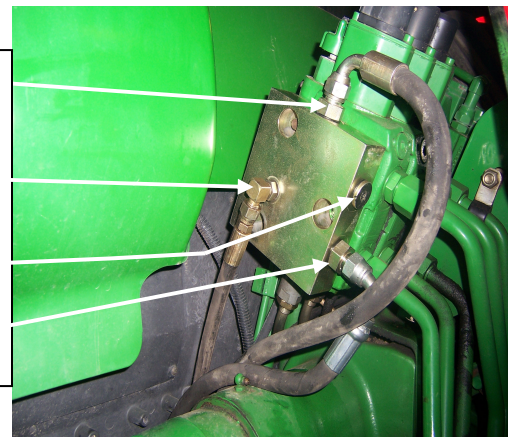

Fig 1-6
9. Attach hydraulic spacer block kit (Part #9) on left hand side of remote stack using existing studs and nuts, use the new provided O-ring and the dime disk with the block to tractor. **See in Fig. 1-6.**
10. Route the two (Pressure & Return) 150" hoses (Part #17) to the proper ports on hyd. block with adapters (Part #10). Route the (load sense) 120" hose (Part #18) to the proper port with adapter (Part #16). **See in Fig. 1-6.**